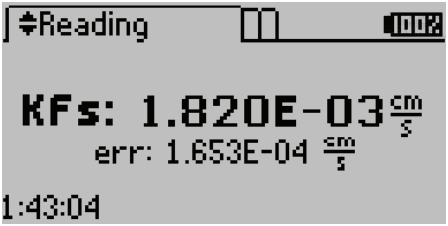

Figure 21 Results screen
- **Results Screen.** After a test is complete, the Results screen replaces the Status screen. It shows the resulting  $K_{fs}$  of the test (Figure 21). The error (err) value also appears on the Results screen. The err is the standard error of the  $K_{fs}$  reading and represents the amount of noise in the measurement. Press UP and DOWN to change Reading screens or press the POWER/MENU button to navigate to the Configuration tab. SATURO will display the results from the last test if no test is running.